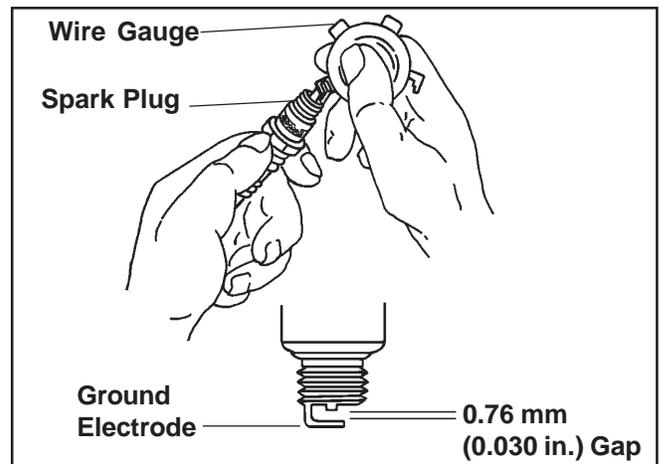

Figure 24. Servicing Spark Plug.
3. Check the gap using a wire feeler gauge. Adjust the gap to **0.76 mm (0.030 in.)** by carefully bending the ground electrode. See Figure 24.